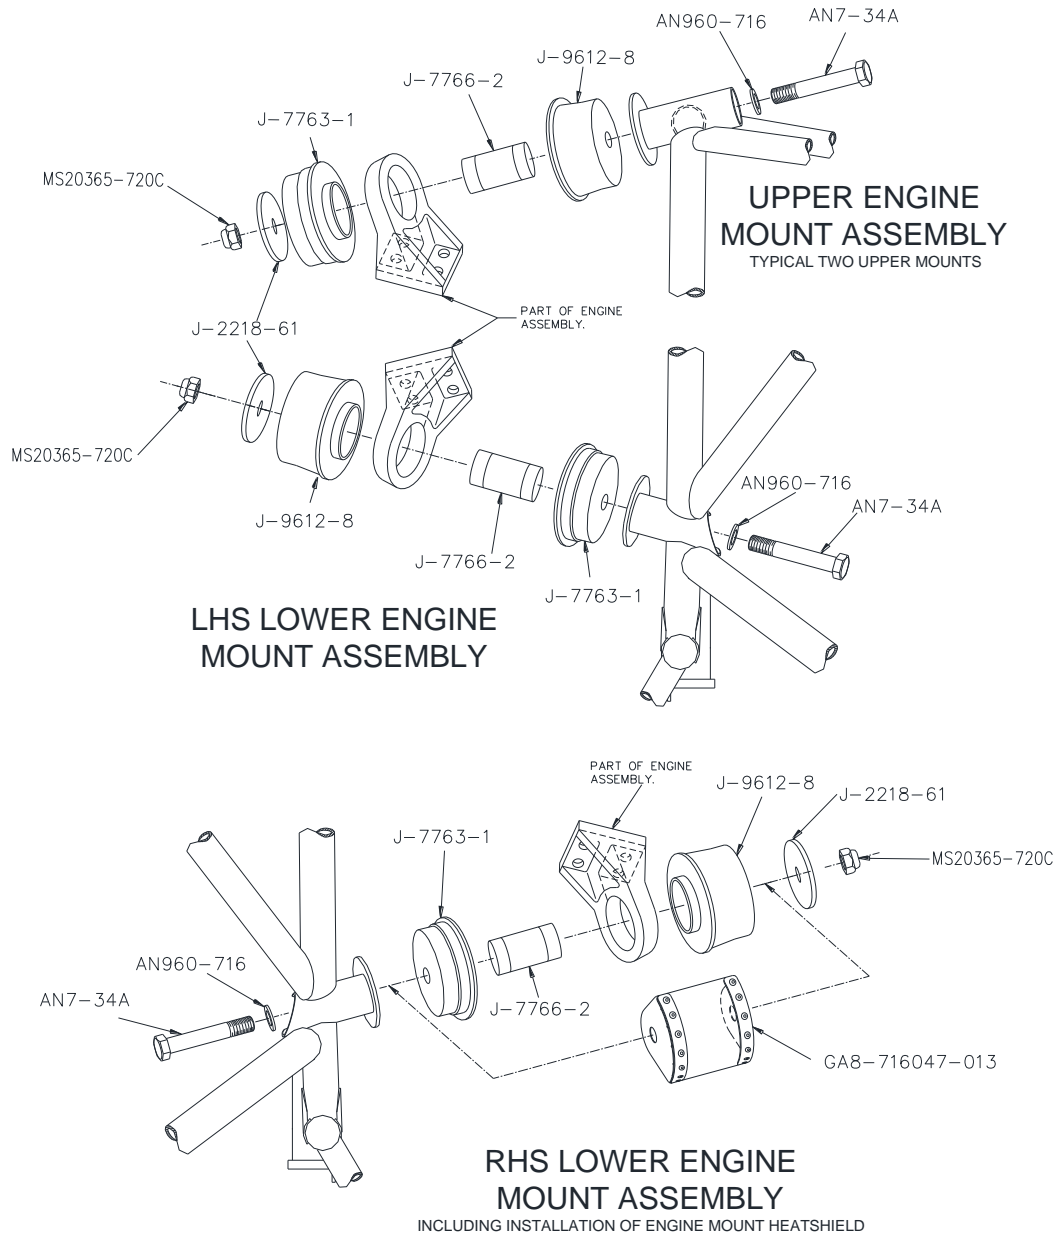
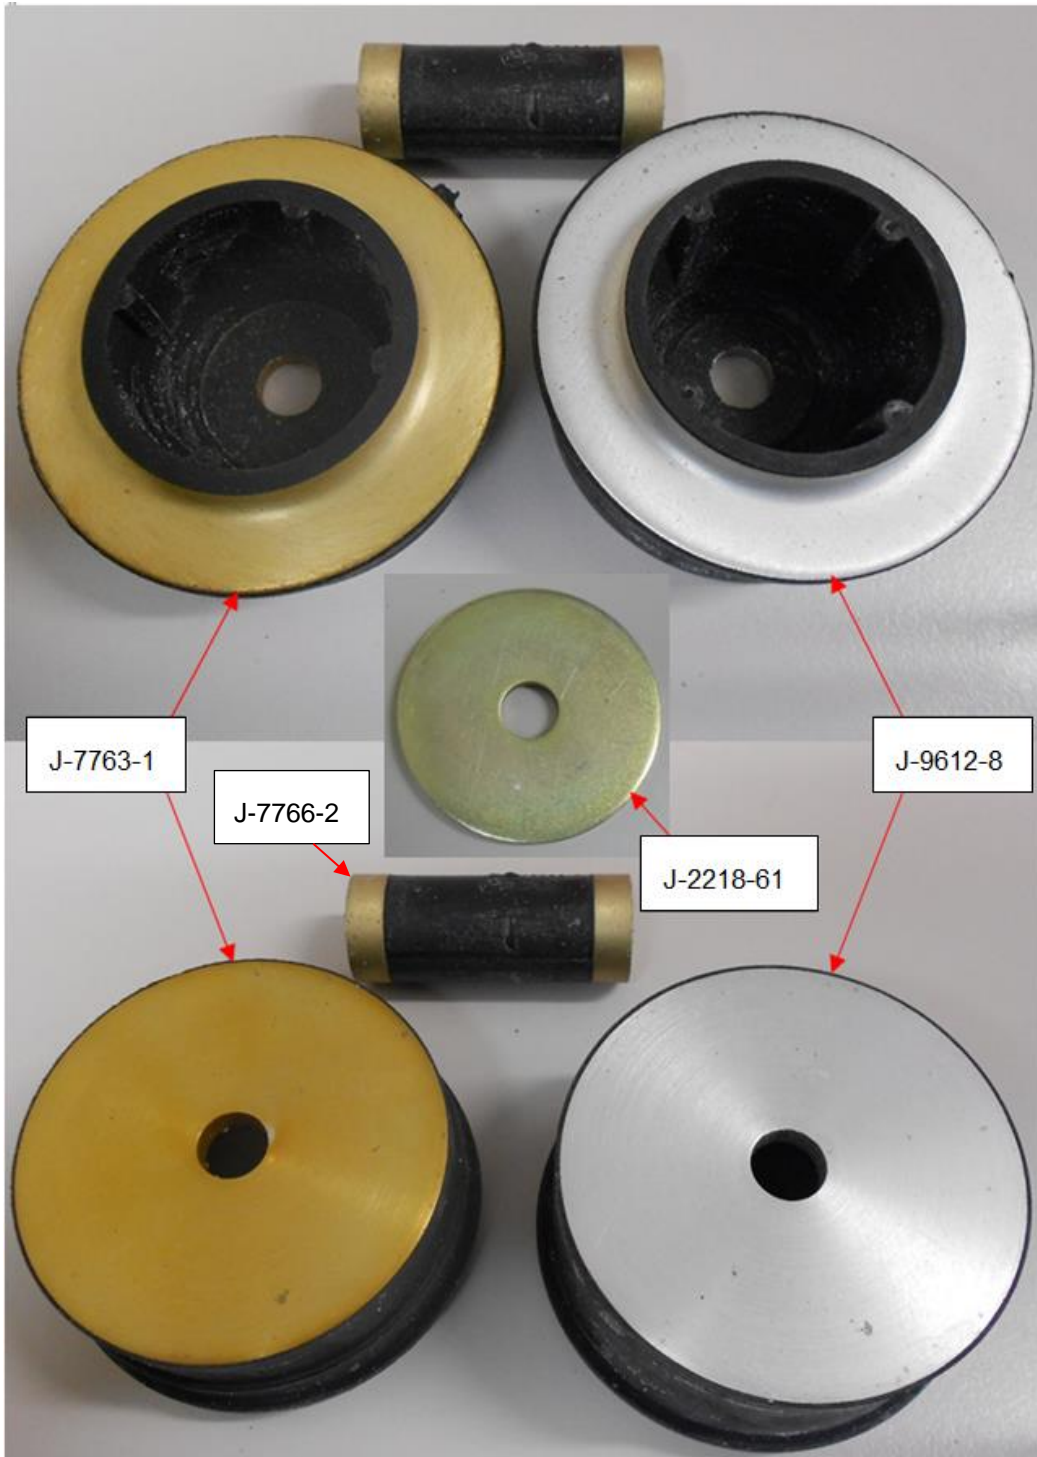

Figure 1: Mount Installation
Figure 2: Mount Depiction
2. Verify that the installation of the engine isolator mounts includes a steel washer J-2218-61 (shown in Figure 2 below). Proceed to step 3 if the washers have not been installed, otherwise skip to step 10.
4. Check the orientation of the engine isolator mounts to verify that the mounts have been installed in accordance with Figure 1. Specifically mount part no. J-7763-1 must be positioned on the compression side of the engine lug. For upper mounts this would be on the forward side and for the lower mounts this would be on the aft side of the engine lug. The part number of the mounts can be found moulded into the elastomer on the periphery of the mount. A depiction of the mounts is shown in Figure 2. If any of the isolator mounts are not installed in accordance with Figure 1, proceed to step 5, otherwise skip to step 8
6. Re-install the isolators such that they are oriented in accordance with Figure 1.